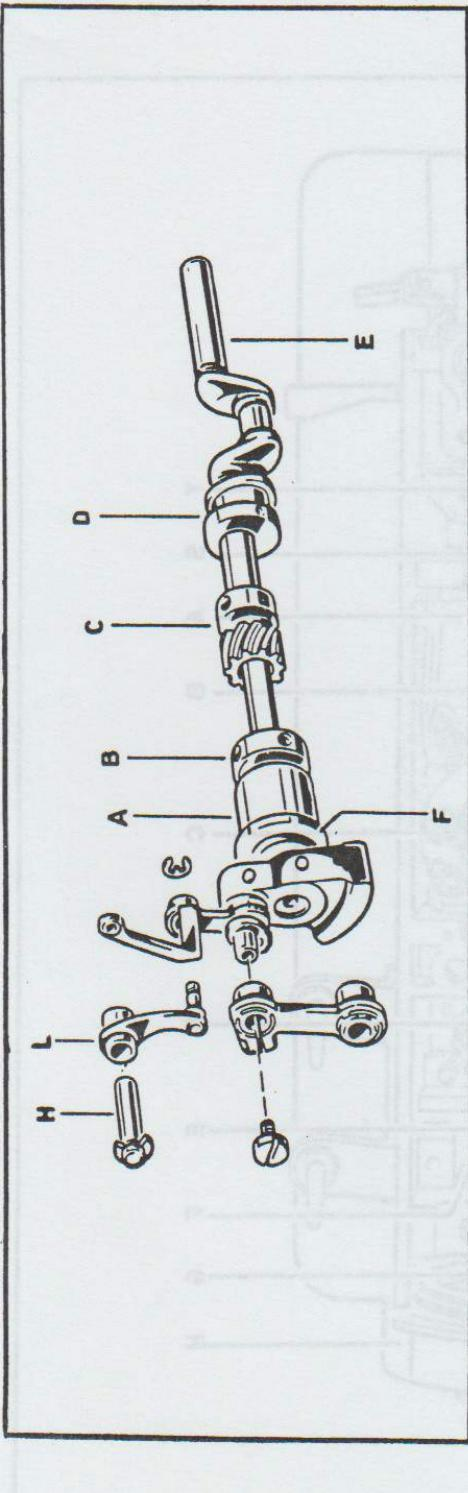

Fig. 50
- loosen grub-screw T and, using either a hammer or a punch, push pin H of the link thread take-up lever to the exterior (fig. 50);
- insert, from the machine nose, upper shaft E (fig. 50) with bushing A, adjusting ring B, gear C and feed eccentric D;
- insert pin H into connecting rod L (fig. 50) and into the machine casting;
- loosen the two grub screws fastening gear C of the upper shaft (fig. 50) and displace the gear itself towards the balance wheel;